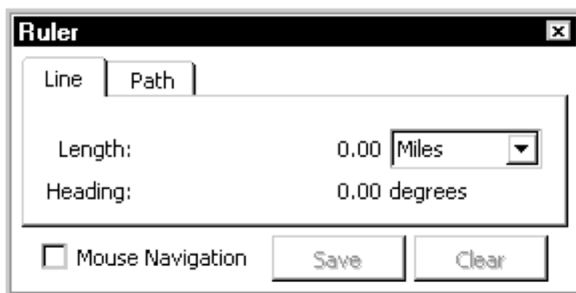

Figure 9–20. Ruler dialog box
1. Click the Show Ruler button in Google Earth. The Ruler dialog box will appear (Figure 9–20).